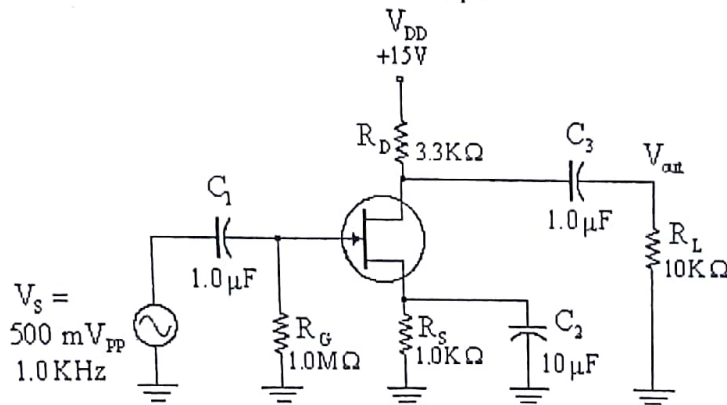

Fig.5: Common Source Amplifier
2. Construct the circuit shown in Figure 5.
3. Restore the initial settings and turn on the function generator as shown in Figure.5. Set the signal generator for 500 mV_{pp} sine wave at 1.0 kHz. Check the amplitude and frequency with your oscilloscope.